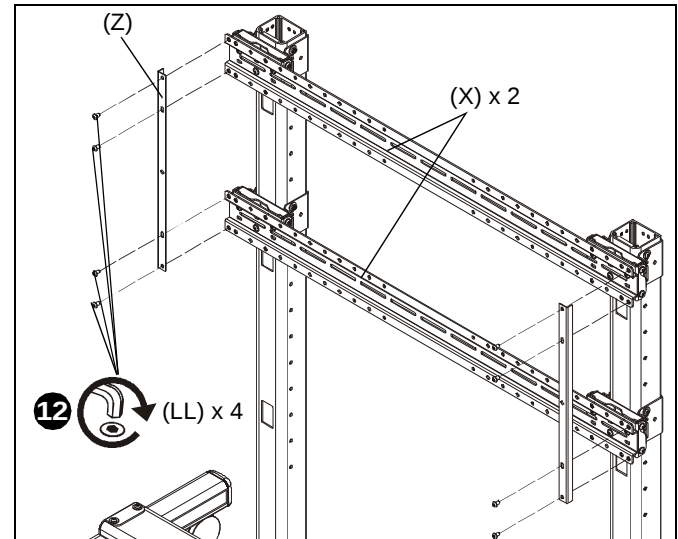

Figure 9
12. Use four 5/16-18 x 1/2" button head cap screws (LL) to secure each side bracket (Z) to wall plates (X). (See Figure 9)